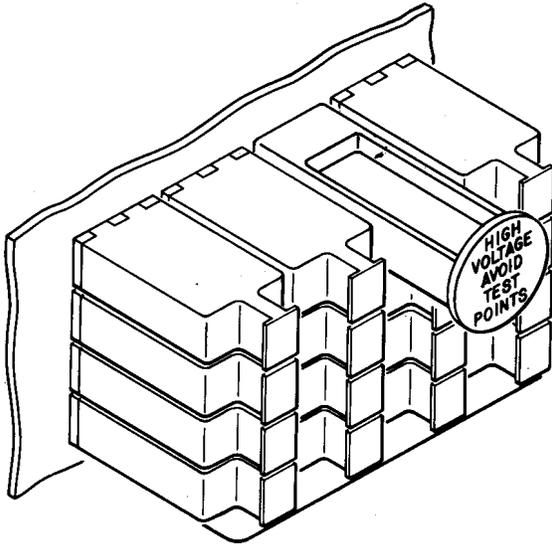

Fig. 1—E-Warning Marker Installed on 302 Connector
3.02 This is accomplished by removing the protector unit associated with the high voltage pair and reinstalling an E-8590 warning marker (Fig. 1) in its place. Removal of the protector unit removes